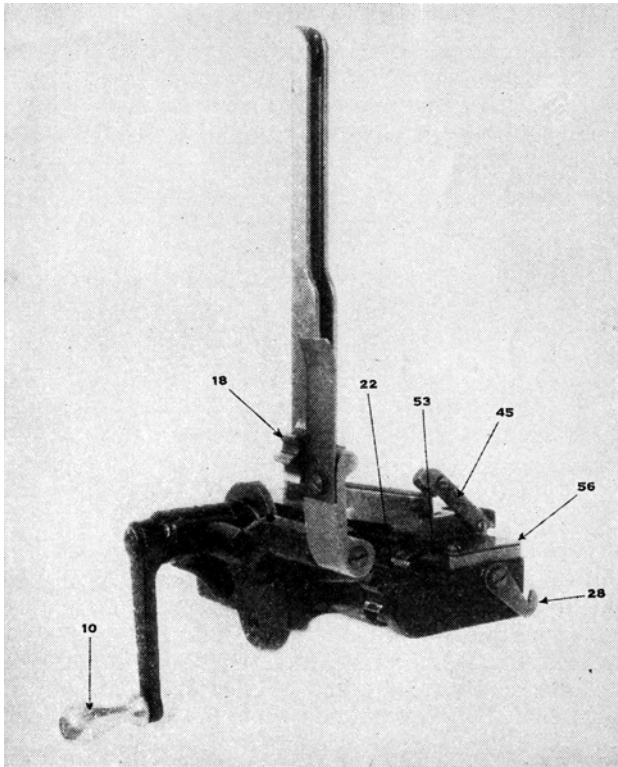

FIGURE 17.—Belt loading machine (web belts)
■49. BELT LOADING MACHINE (fig. 17).—